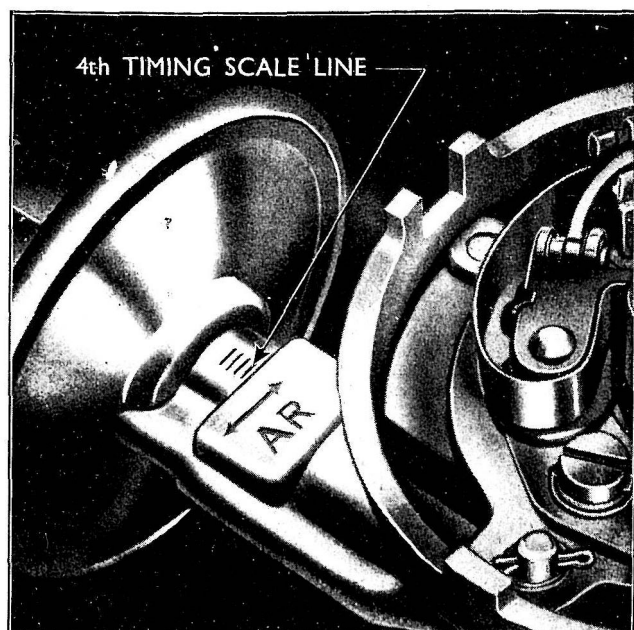

Fig. 247
- 9 Replace the adjustment nut spring, vacuum unit ratchet spring, adjustment nut and circlip. Tighten the nut until the fourth line on the timing scale behind the vacuum housing is in line with the edge of the distributor body, as shown in Fig. 247.
- 2 Turn the adjustment nut at the rear of the distributor body until the fourth line of the ignition timing scale, just behind the vacuum control diaphragm housing, is in line with the edge of the distributor body, as shown in Fig. 247. Remove the distributor cap.